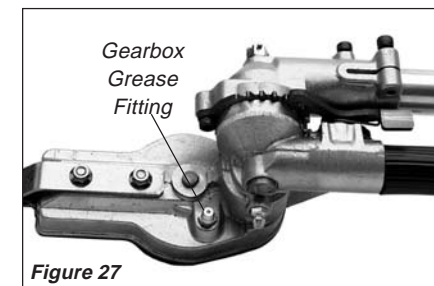

Figure 27
- Lubricate the cutter assembly gearbox by pumping one or two strokes of lithium-base grease into the grease fitting using a lever-type grease gun. See Figure 27.